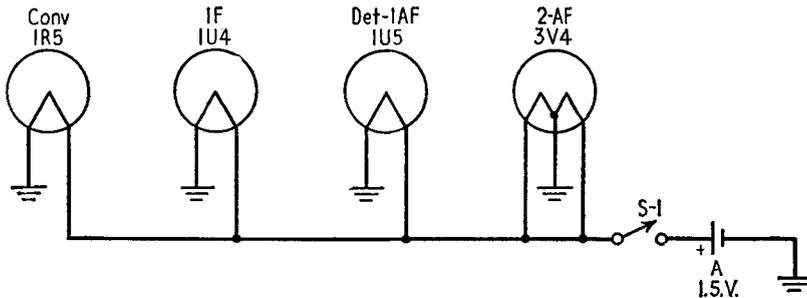

FIG. 19-2. Filament circuit commonly used in battery portables.
The converter, IF, and detector-first AF tubes use directly heated cathodes rated at 1.5 volts and 0.05 amp. In spite of this very low filament power consumption, these tubes give approximately the same performance as the much heavier cathode-heater types operating in the same stages in AC or AC/DC receivers. The second AF tubes also use directly heated cathodes, rated at 3 volts and 0.05 amp. The filament is center-tapped to permit operation from a 1.5-volt dry cell, as shown in Fig. 19-2. The portable-type second AF tubes, however, do not produce as much signal as do the equivalent tubes in AC or AC/DC sets. The 3S4, for example, at operating potentials usual in the portable set, delivers  $\frac{1}{4}$  watt of signal to the loudspeaker, as against 2 watts for the
**Filament or A circuit in battery portables.** Whereas the signal circuits in battery portables and three-way portables are essentially the same, the filament and plate supply circuits differ. These will be described separately. The filament circuit commonly used in battery portables is shown in Fig. 19-2. The filaments are connected in parallel. Note that